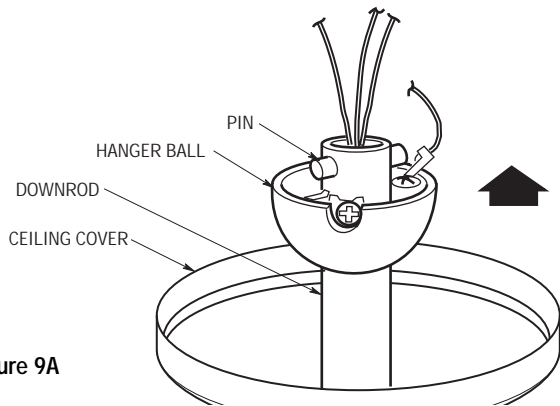

Figure 9A
- 15. Position the ceiling cover over the downrod. Be sure the cover is oriented correctly, with the large opening at the top (Figure 9A).
- 16. Reinstall the hanger ball on the downrod as follows. Route the motor leads through the hanger ball and slide the hanger ball over the downrod (Figure 9A). Install the pin through the holes at the top of the downrod and slide the hanger ball up the downrod, aligning the ball so the pin is captured in the groove in the top of the hanger ball. Pull the hanger ball up tight against the pin and securely tighten the setscrew in the hanger ball. A loose setscrew could create fan wobble.